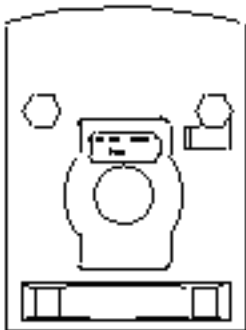

Fig. 6
1. Place the shield over the output shaft in the position shown and press the shield. Press firmly against the front of the opener. (Fig.6)
2. Place the gear over the square output shaft and push the gear against the shaft shoulder. (Fig.6)
3. Lock the shield and the gear in place by pressing where the words "Press here to lock" are located. The shield and the gear are locked when a click is heard. (Fig.6) Check pulling out on the gear locks the gear. If the gear is properly locked in place it will not come off.